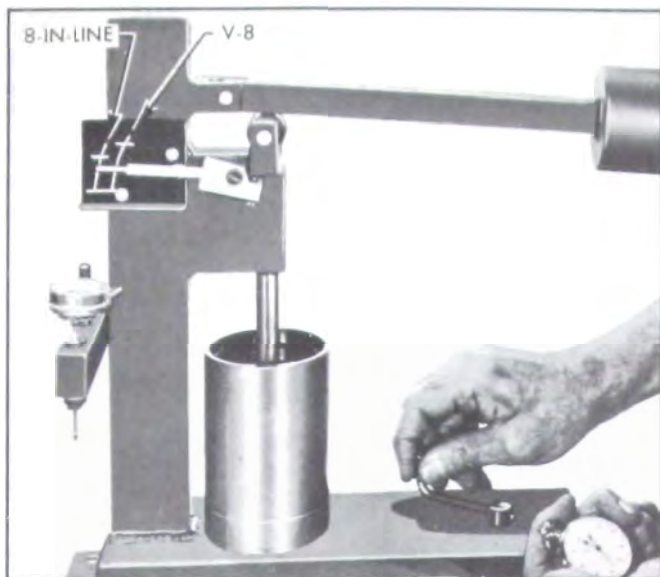

Figure 2-43—Checking Leakdown Rate
4. Lower the ram to rest in the lifter push rod seat, then lower the weight arm to rest on the roller of ram as shown in Figure 2-43.
6. Raise weight arm to allow the lifter plunger to come up to its retainer, then lower the arm to rest on the ram roller. As the pointer starts moving upward start rotating the fluid cup by turning the handle one revolution every two seconds. See Figure 2-43.
7. Use a stop watch to check the time required for pointer to move from the lower to the upper mark on scale where marked "BUICK V-8." The cup must be rotated during this test. See Figure 2-43.